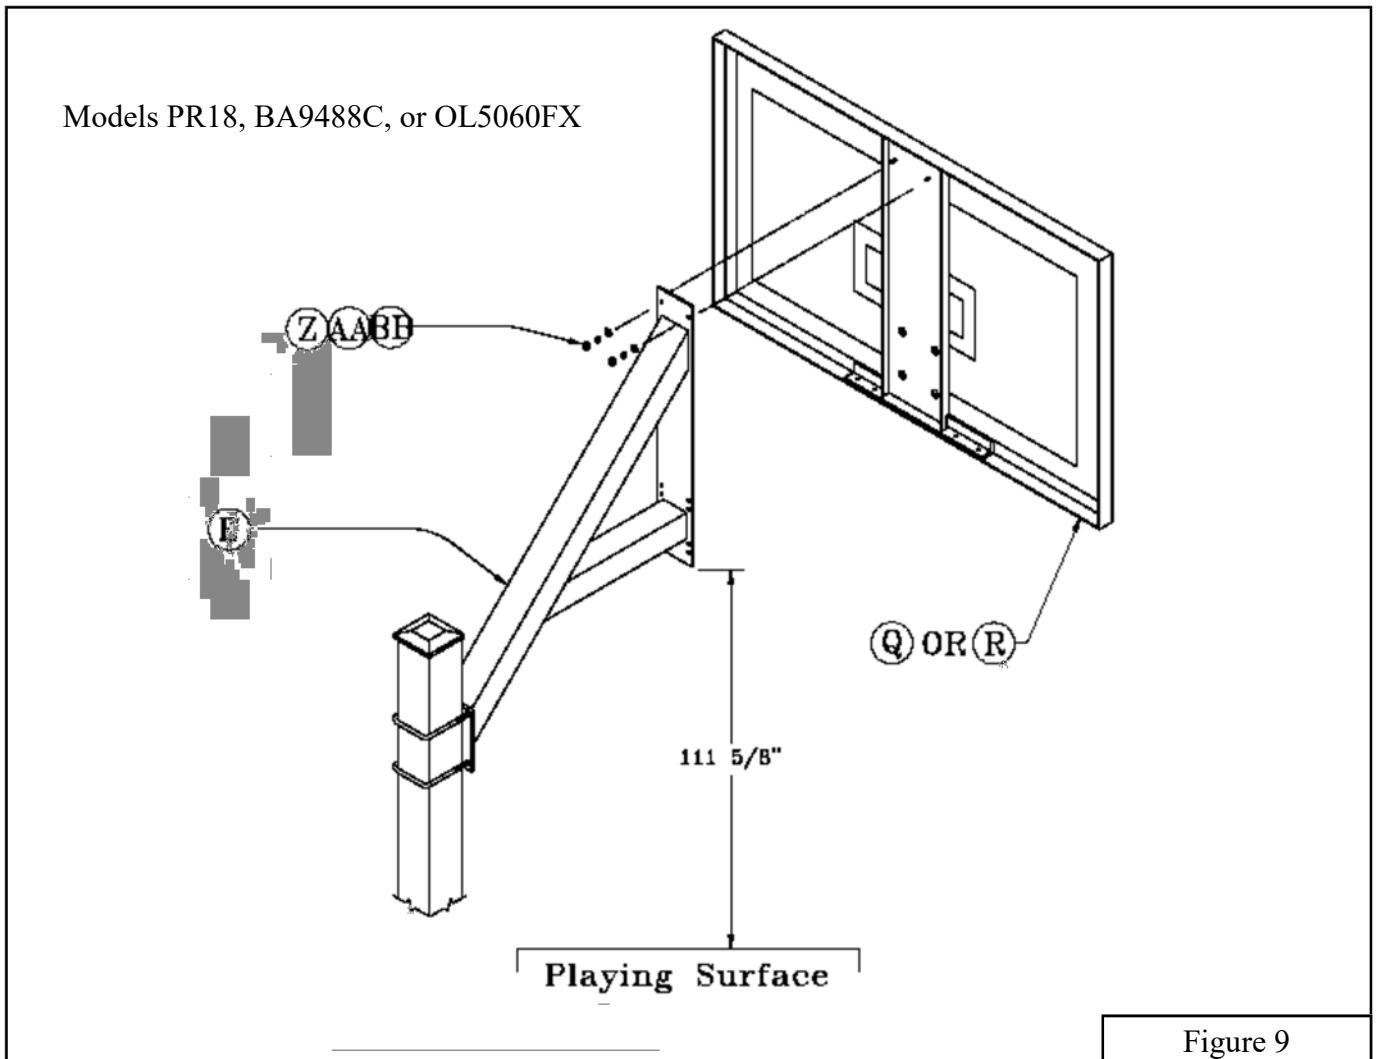

Figure 9
- 23z. Locate the bottom of the backboard mounting plate on the front of the *Extension Arm (E)* **111 5/8"** from the playing surface. See Figure 9.
- 24z. Attach the *BA487X Backboard (R)* or *BA487UX Backboard (Q)* to the *Extension Arm (E)* by placing the two threaded studs in the top of the backboard frame through the hole in the top of the *Extension Arm (E)* and securing with *5/16" Flat Washers (Z)*, *5/16" Lock Washers (AA)*, and *5/16" Hex Nuts (BB)*. Leave hardware loose. See Figure 9.
- 25z. Mount the *Rim (DD)* through the *BA487X Backboard (R)* or *BA487UX Backboard (Q)* and the hole in the *Extension Arm (E)* using the hardware provided with the *Rim (DD)*. Make sure that the tubular spacers are installed in the 4 rim holes in the backboard to keep the rim from contacting the backboard surface.
- 26z. Tighten all hardware when backboard and *Rim (DD)* are level.
- 27z. Install *Pole Cap (F)*, *Net (DD)*, and *Pole Pad (EE)* (if applicable).